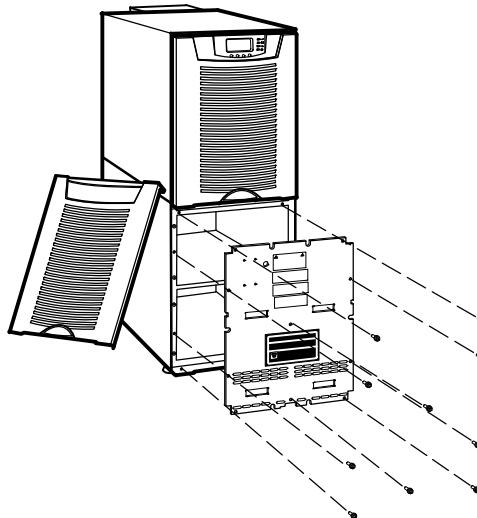

Figure 2. Removing the Battery Cover Panel
2. Remove the 10 M4 screws from the battery cover panel and remove the panel on each battery cabinet (see Figure 2).